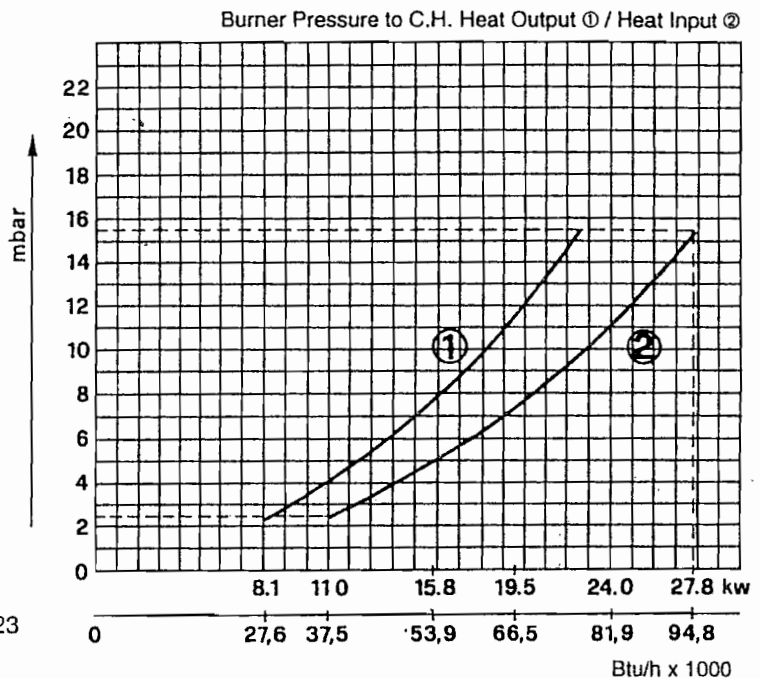

Fig. 23
**Note 3** - The range of inputs with corresponding burner pressure is given on the Data badge which is situated behind the top front panel. Further informations is on (fig. 23).